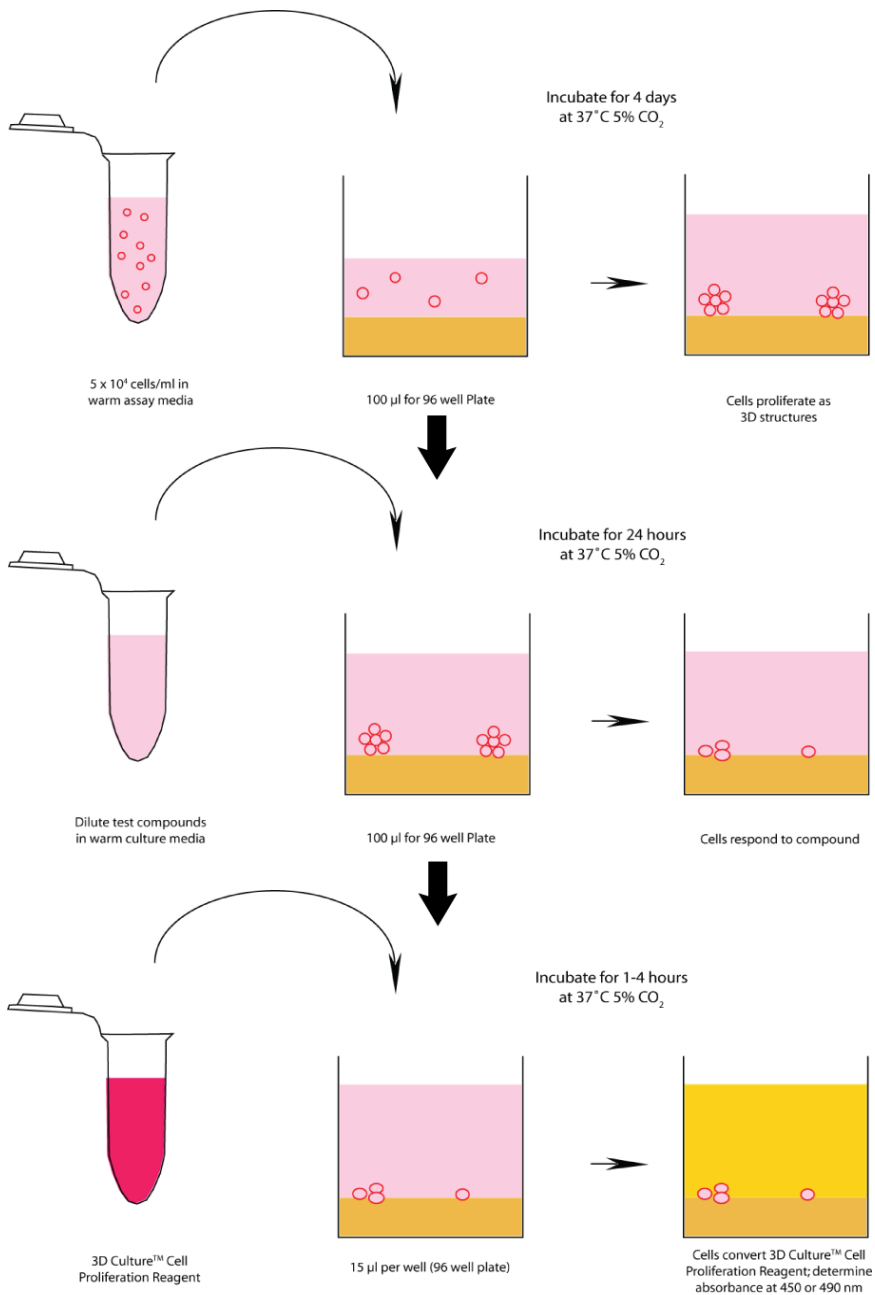

Figure 4. Illustration of protocol for assessment of toxicity in 3D culture.
1. Culture cells at 37°C in CO₂ incubator for 48 - 96 hours to promote the formation of 3D structures (Figure 4).